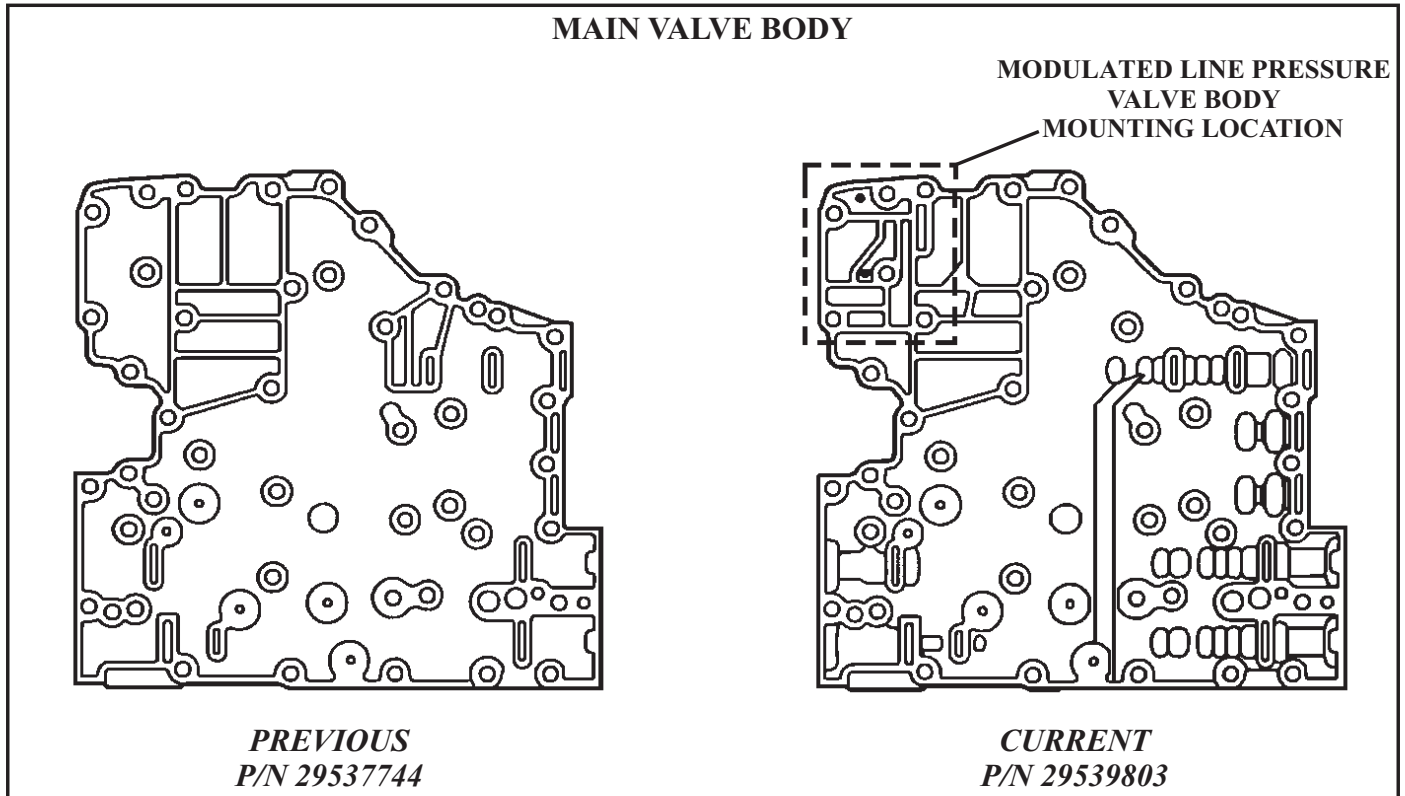
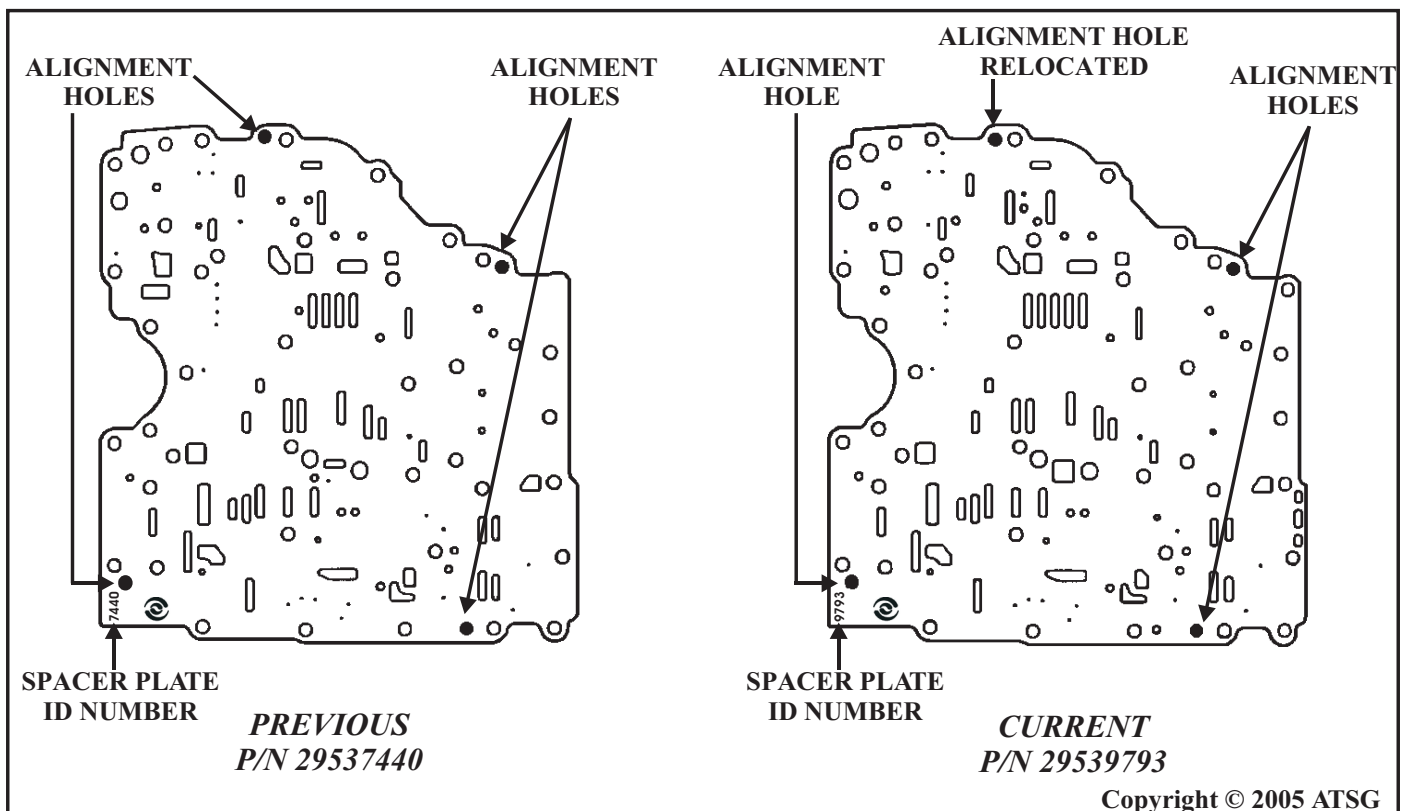

Figure 1
Figure 2
- (1)The Main Valve Body, (Figure 1), has changed as well as the Separator Plate, (Figure2).